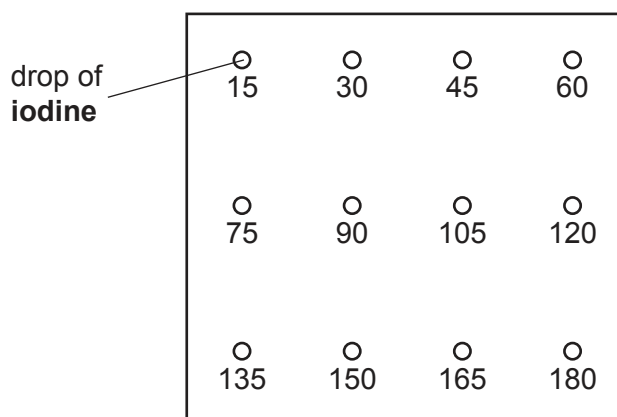

Fig. 1.1
step 3 Label the white tile with the numbers shown in Fig. 1.1.
step 4 Put **one** drop of **iodine** on the white tile at each sampling time, as shown in Fig. 1.1.
- step 13 Put **one** drop of **iodine** on the white tile at each sampling time, as shown in Fig. 1.1.
step 15 Put **one** drop of **iodine** on the white tile at each sampling time, as shown in Fig. 1.1.